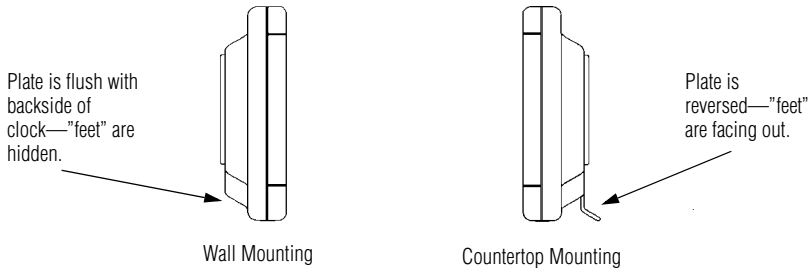

Figure 4: Serial Clock—Side View
3. Insure that the plate and the feet are facing in, towards the backside of the clock (See Figure 4: Serial Clock—Side View).
2. Turn the plate over so that the “feet” protrude out (away) from the backside of the clock (See Figure 4: Serial Clock—Side View). The plate can be adjusted up or down to obtain the desired viewing angle.